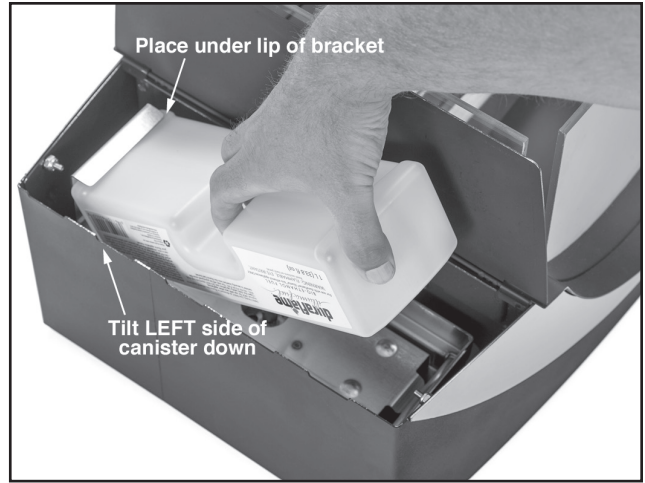

Figure 8
3. Invert the canister and position it so that the left end fits under the bracket at the back end of the canister tray (see Figure 8). Lower the canister so that the neck is aligned with the piercer hole in the tray at the bottom of the fuel canister compartment. Push down firmly on the canister until the piercer punctures the foil seal and the canister is seated firmly on the tray. To assist the flow of illuma-fuel from the canister, wiggle the canister back and forth slightly on the piercer. You might hear a soft gurgling noise as the fuel from the canister begins to fill the burner—this is normal.